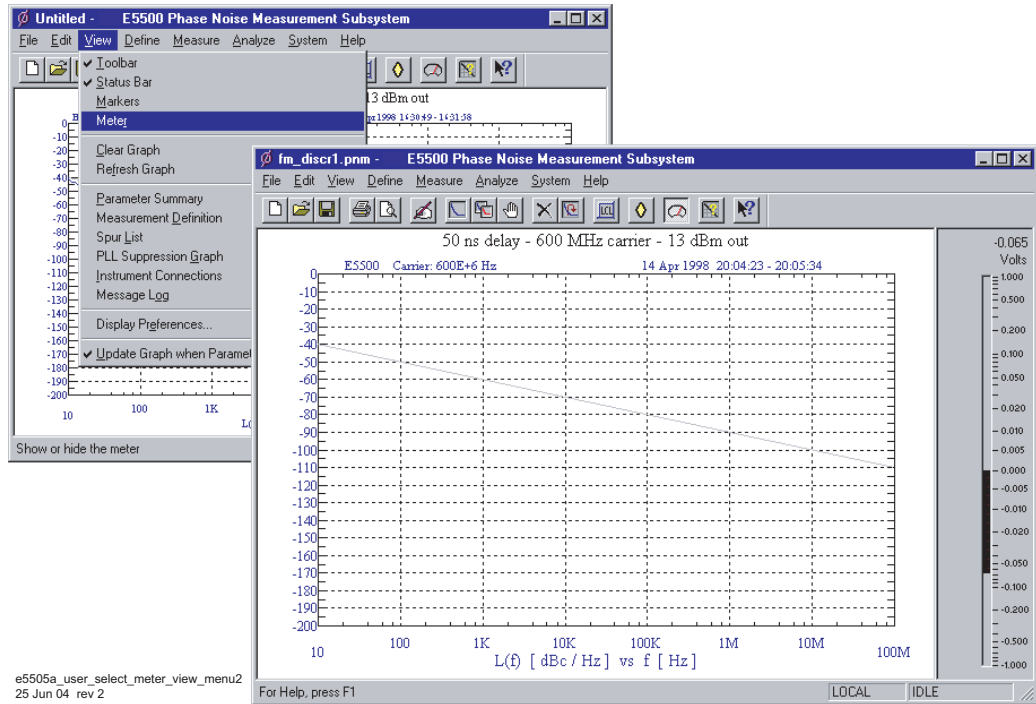

Figure 206 Select meter from the View menu
- 1 From the **View** menu, choose **Meter** to select the quadrature meter. See Figure 206.